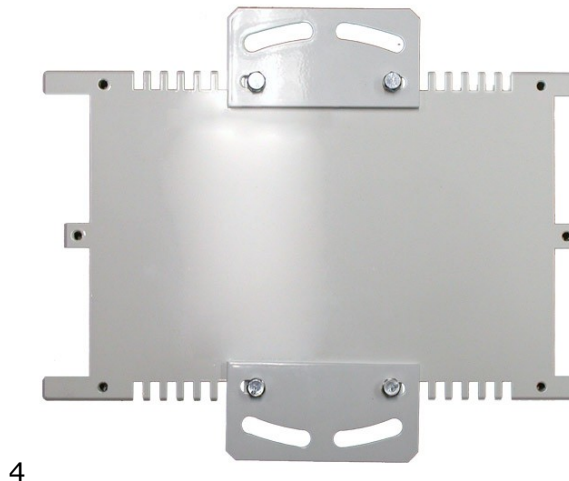

Figure 3-10. Pole Mounting Brackets on ODU2200
32. For pole mounting, optional brackets are installed in the location as shown below in Figure 3-10.